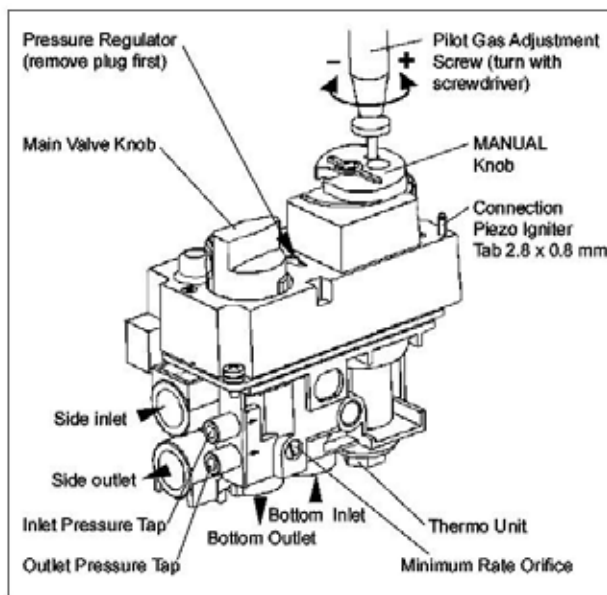

Figure 5: Combination Control GV60, Connections and Adjustment Options
Gas control knobs function as follows (see figure 5):
1. The adjustment screw can be reached through a hole in the MANUAL knob (see figure 5).
Pressure regulator or throttle are located under the cover and can be reached by removing the plug (see figures 5 and 7).